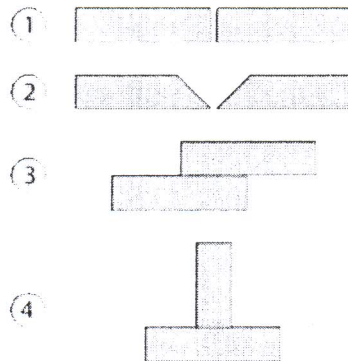

Figure 4
- b) List down all type of welding joint as stated in figure 4 below: